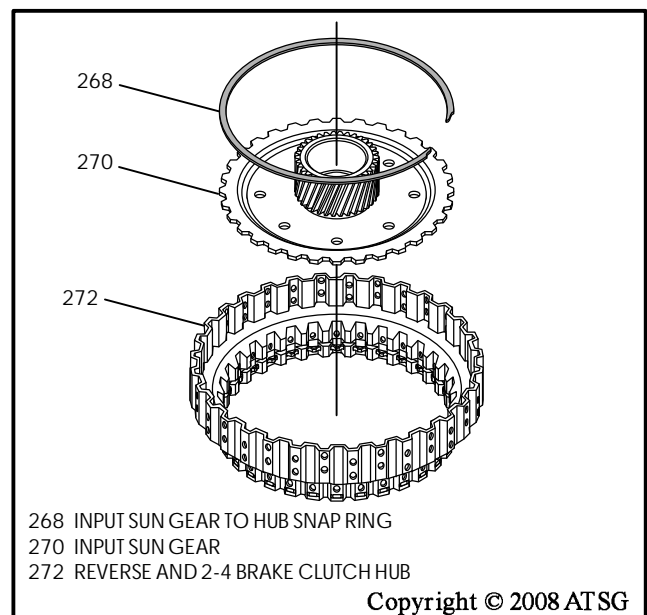

Figure 112
10. Assemble the input sun gear to reverse and 2-4 brake clutch hub, as shown in Figure 112, and install snap ring.